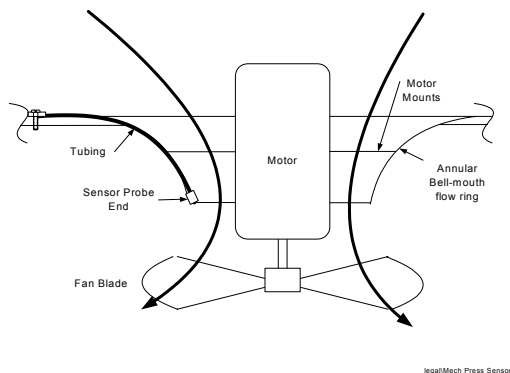

Figure 2
4. Once identified, note the pressure reading and mark the position. Turn power off and wait for the fan to stop turning. Hook the U-clip over the edge of the annular flow ring (see Figure 2) at the same point as was previously identified, and snug it up so U-clip is fully engaged.